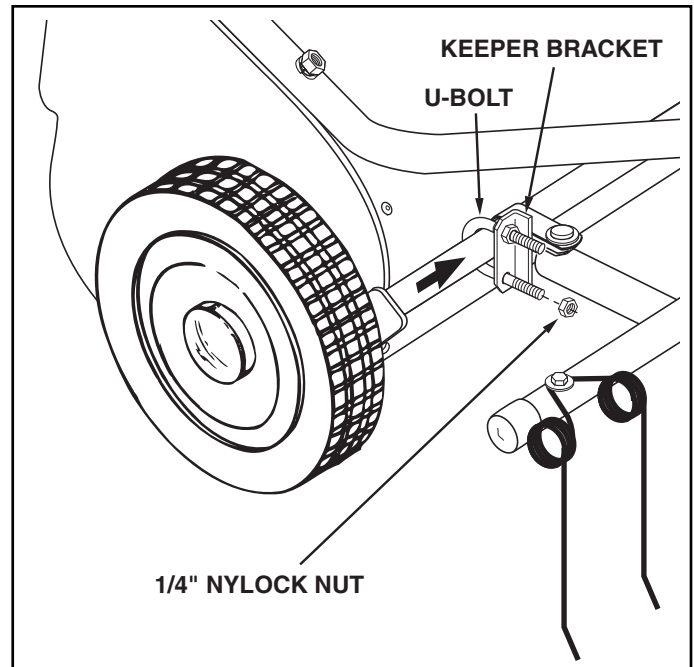

FIGURE 5
- Assemble the keeper brackets (bend to the inside) to the sweeper's hitch tube, outside of the conduit clamps. Use a u-bolt and two 1/4" nylock nuts per bracket. Position the keeper brackets against the sides of the conduit clamps, approximately perpendicular to the ground. Tighten the nuts without bending the keeper brackets. See figure 5.